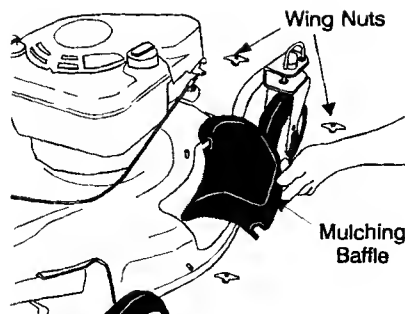

Figure 8
1. Remove wing nuts holding mulching baffle (see figure 8) or side discharge chute (see figure 12) in place. Then remove baffle or discharge chute.
1. Remove mulching baffle or grass bag adapter. See figure 8.